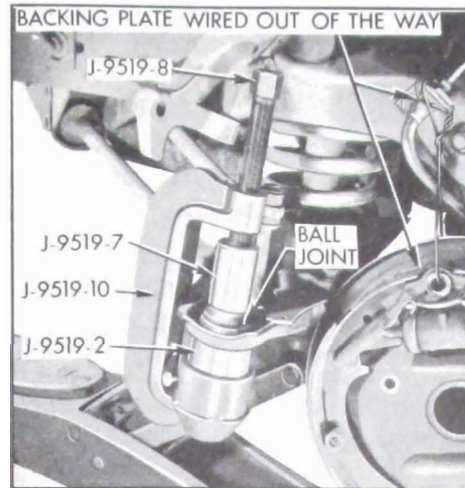

Figure 7-16—Lower Ball Joint Remover Tool in Place - 49000 Series
2. Remove the brake backing plate. If the backing plate is wired carefully out of the way as shown in Figure 7-16, there will be no need to disconnect the brake hose.
6. On 49000 Series install Lower Ball Joint Remover and Installer J-9519 as shown in Figure 7-16. Note that the larger O.D. portion of Detail J-9519-2 is positioned in J-9519-10.